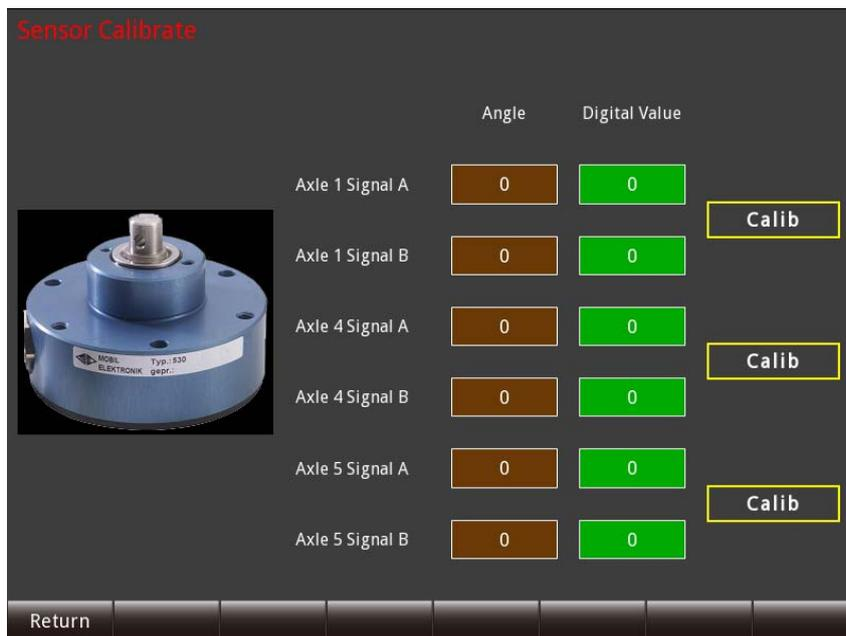

Figure 3-20 Sensor calibration
- Press icon "Calib" of the axle to be calibrated (Refer to Figure 3-20).